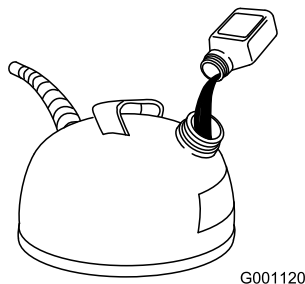

Figure 8
2. Add 2-cycle oil to the gasoline according to the chart below (Figure 8).